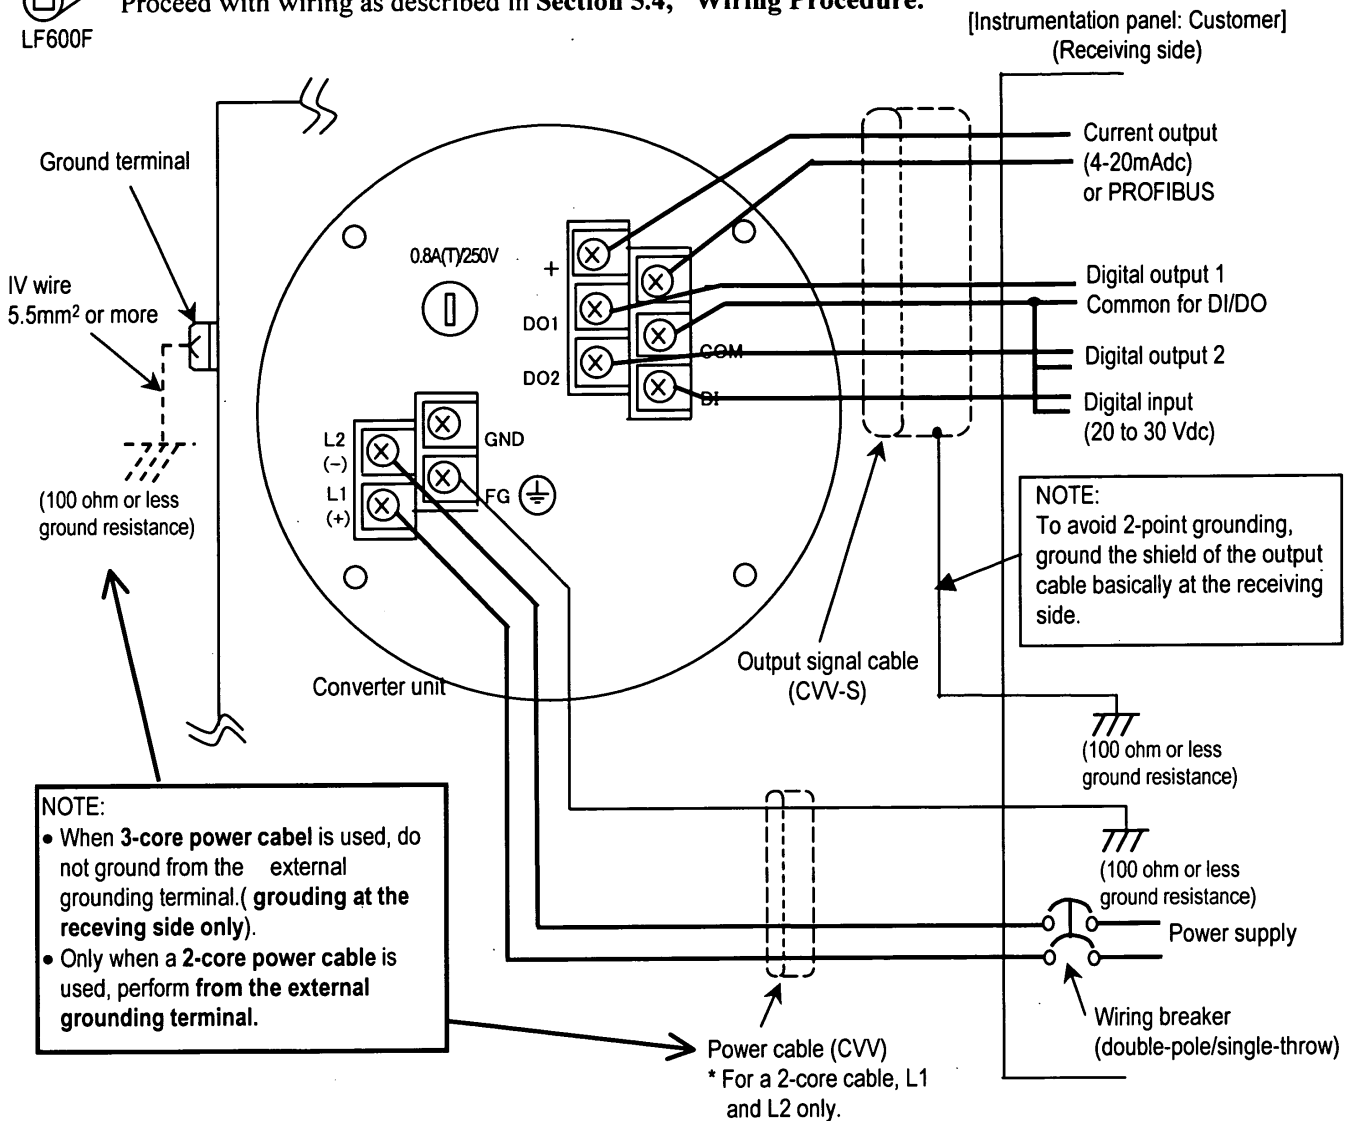

Figure 5.1 External Wiring Schematic Diagram
The terminal board connections of an integral type converter LF600F are shown in Figure 5.1. Proceed with wiring as described in Section 5.4, "Wiring Procedure."
* Use a heavy copper braid or wire (cross-sectional area **5.5 mm² minimum**) to ground the terminal and make it as **short as possible** as shown in Figure 5.1 for **grounding**. Also, **Avoid a common ground** where earth current may flow. (An **independent ground** is preferable.)
The terminal board connections of separate type converter LF602F are shown in Figure 5.1. Proceed with wiring as described in Section 5.4, "Wiring Procedure."